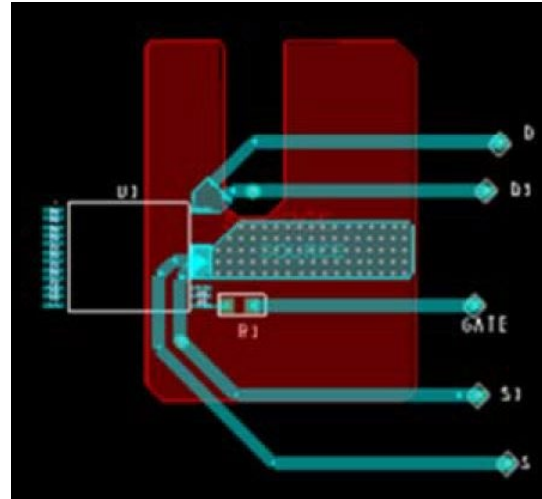

Figure 23. Thermal Resistance Test Conditions for GaN-based INN3279C and INN3270C.
Testing performed on custom thermal test PCB as shown in Figure 23. The test board consists of 2 layers of 2 oz. Cu with the InSOP package mounted to the top surface and connected to a bottom layer Cu heat sinking area of 550 mm².
4. Please see Figure 23.